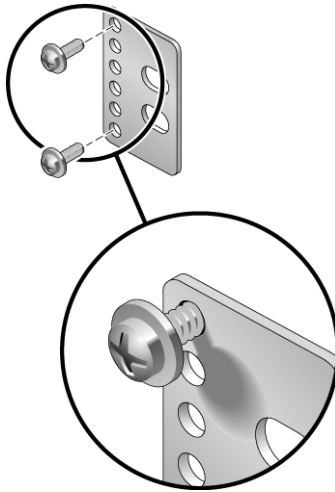

FIGURE 4-11 Installing Screws on the Optimum Rack Position on the Rear Plate
- a. Using two of the M3 × 8 SEM screws for each rear plate, loosely install the screws in one of the six positions on the rear plate (FIGURE 4-11).
The position varies depending on the thickness of the rail in the rack. For example, FIGURE 4-11 shows where you would install the screws for the optimum rack position on the rear plate.